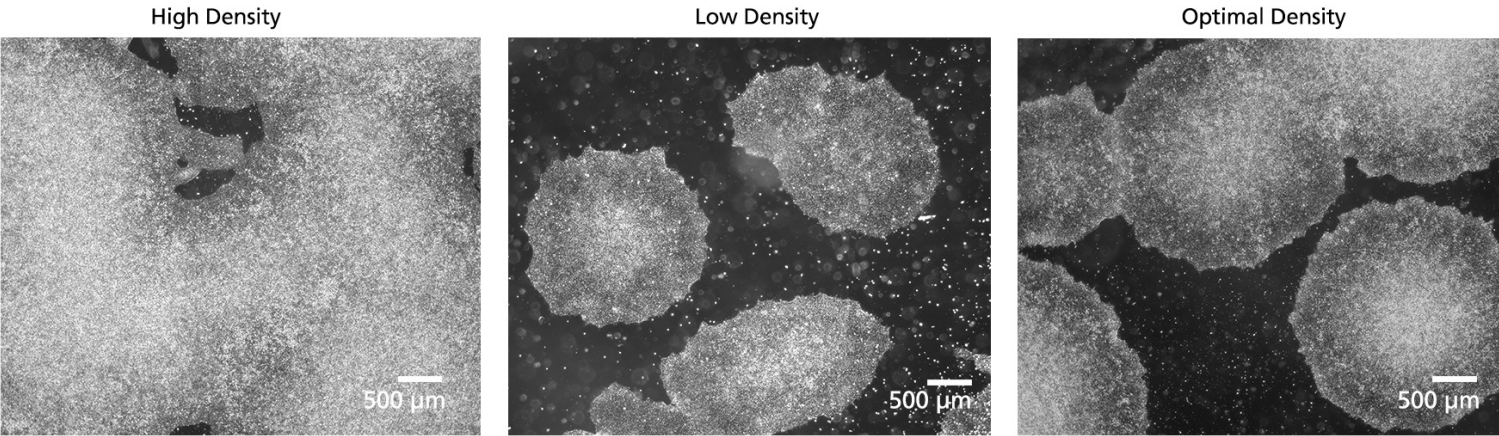

Figure 2. SCTi005-A iPSCs Demonstrate Varying Colony Densities When Seeded at a Range of Starting Concentrations.
14. On Day 6 - 8, select the well with optimal iPSC colony density for passaging (Figure 2). The culture should consist of healthy iPSC colonies that are large, compact, and have centers that are dense compared to their edges.